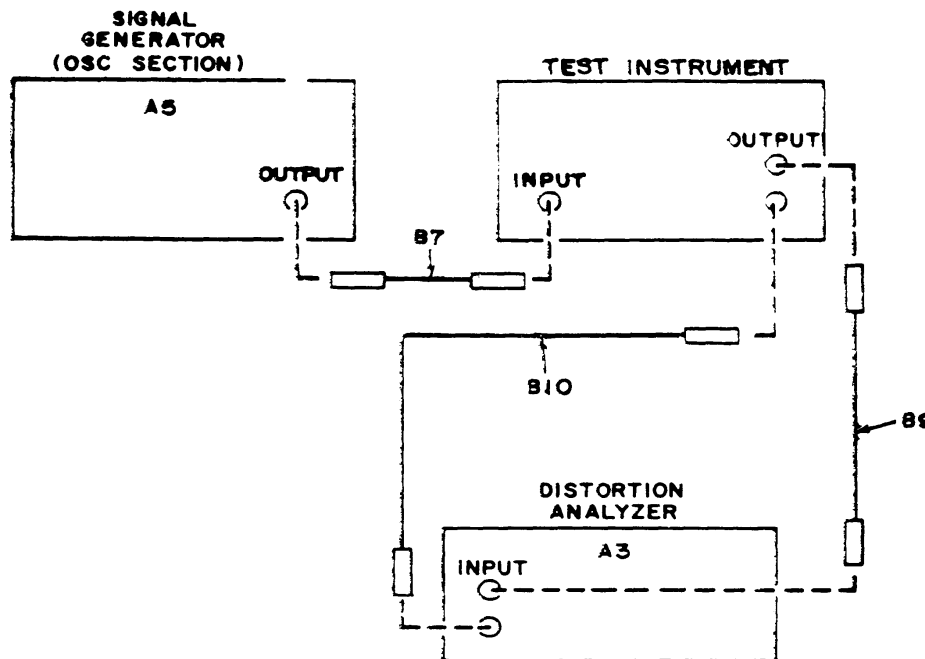

Figure 2. Distortion Check - equipment setup.
(1) Connect equipment as shown in figure 2.
(2) Adjust signal generator (A5) frequency for 10 Hz and output for an 8-V indication on distortion analyzer (A3) voltage meter.
(3) Measure and record distortion. Distortion will be less than 1 percent.